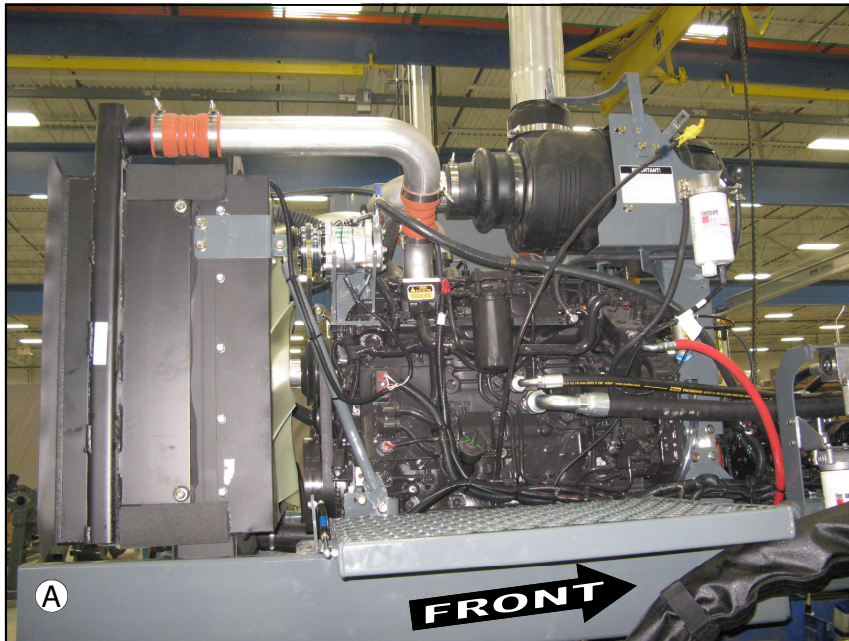
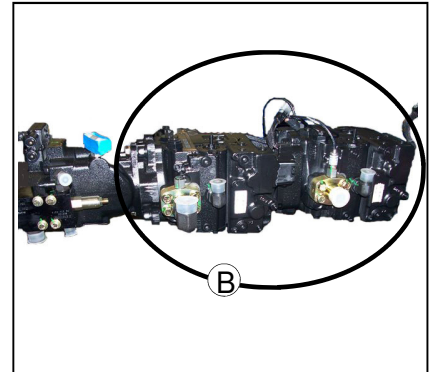

FIG. 35-1
FIG. 35-2
**CUMMINS ENGINE AND TANDEM PUMP**– The STS 14 SPRAYER/DETASSELER comes standard with a 275hp Cummins diesel engine (fig. 35-1) equipped with an automatic exhaust brake. The engine has a direct mounted Sauer-Danfoss 90 Series tandem hydrostatic pump (fig. 35-2). More information on the operation of the engine is on the next page.